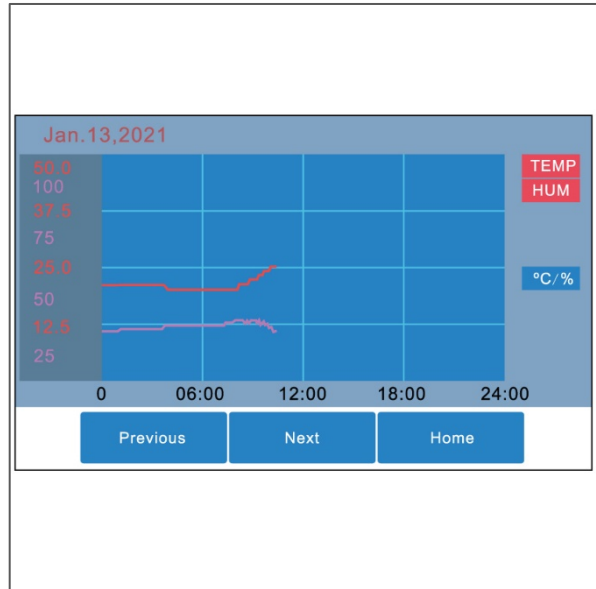

Figure 17
2. The TEMP/HUM overview opens (Figure 17).